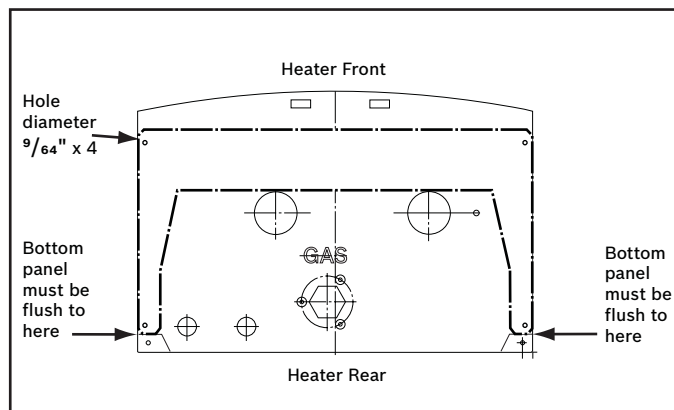

Fig. 4 Drill template alignment to water heater bottom
3. For heaters without pre-drilled holes, place the water heater on its back with the front cover removed. Position bottom panel of pipe cover over the bottom of the water heater being sure to line up flush where indicated (See Fig. 4). Once aligned, mark the four holes in the bottom panel for drilling. Remove bottom panel and drill four $\frac{9}{64}$ " diameter holes into the bottom of the water heater.